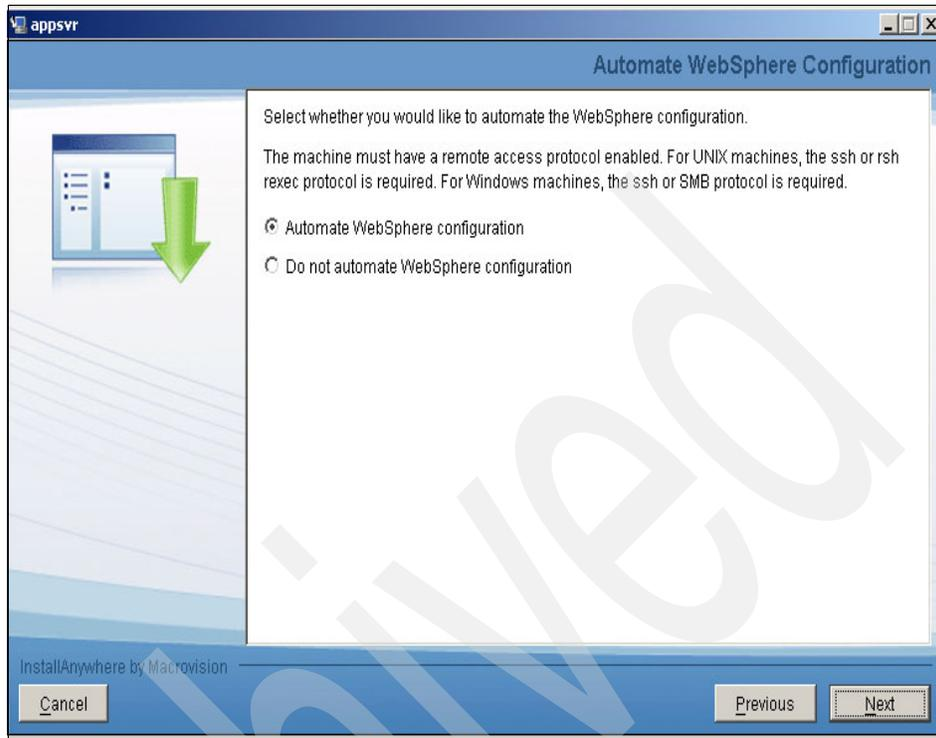

Figure 5-16 Automate WebSphere Configuration
11. From the Automate WebSphere Configuration panel, select **Automate WebSphere configuration**, and then click **Next** (see Figure 5-16 on page 89). If you choose not to have the Maximo Asset Management installation program automatically configure the middleware, you must have configured WebSphere manually prior to the installation of Maximo. Configuration tasks include creating a profile, running WebSphere Application Server as a Windows service, copying the WebSphere keystore file from the machine where WebSphere Application Server is installed to the administrative workstation, setting up JMS queues, and so on. Refer to “Manually configuring the J2EE server” on page 256 for information about manually configuring the J2EE server.